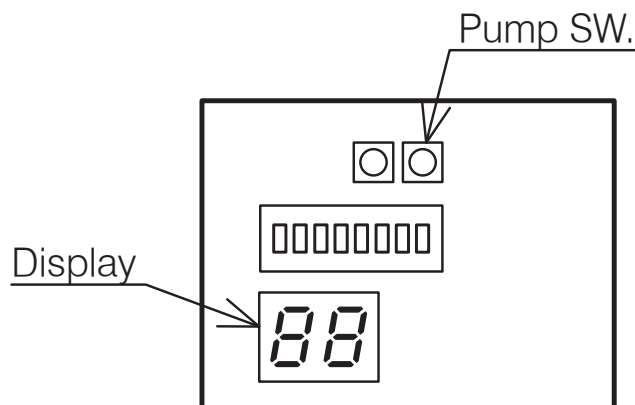

Figure 9-2: Water loading and air bleeding in the hydraulic circuit
- Press the Pump SW. Refer to Figure 9-2.